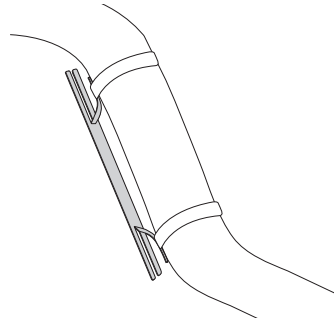

fig. 26
3. Bend the heat shield tab out at a 90° angle and again half the distance up at a 90° angle to form an “L” shape. Repeat on the other tab (Fig. 26). Position heat shield and insert the heat shield tabs beneath the two radiator clamps. Tighten the clamps.